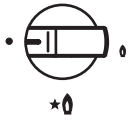

Fig 8
- 1.To light the hotplate push in the appropriate control knob and turn anti-clockwise to the large flame symbol (fig. 8).